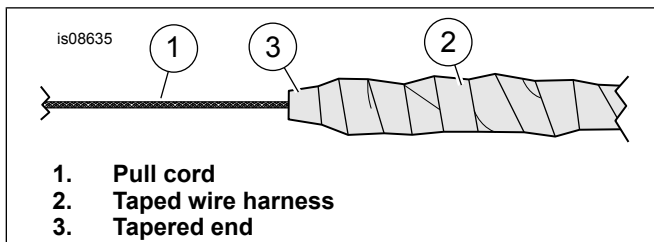

Figure 2. Pull Cord and Wire Harness
4. See Figure 2.
- b. Wrap tape (2) over harness, cord, and pins.
- c. Tape should come to a taper (3) and be flexible to ease pulling through handlebar.